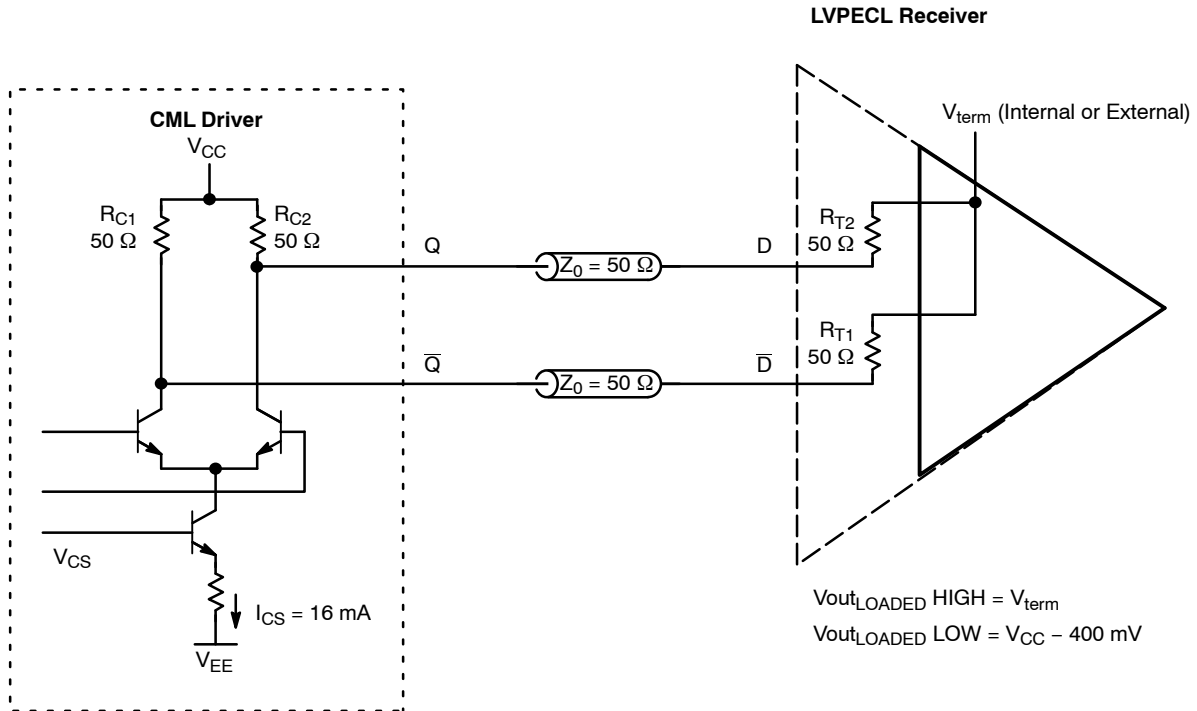

Figure 10. CML Output with Direct (DC) Interconnect and Termination of 50 Ω to V_{term}
typical LVPECL receiver input on similar power supplies. A direct (DC) interface interconnect is shown in Figure 10.